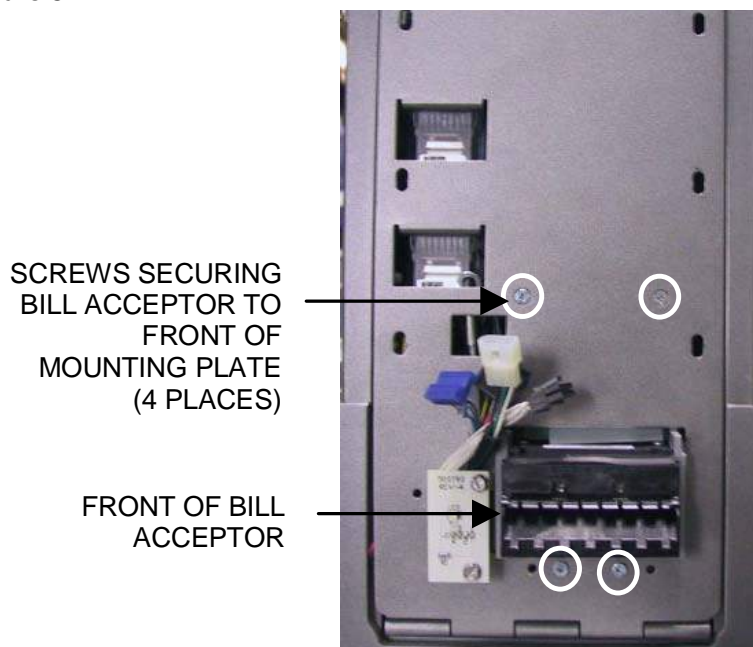

FIGURE 5 - FRONT VIEW OF EVO WITH CPU SECTION REMOVED
6. Remove the 4 screws on the reverse side of the mounting plate fastening the bill acceptor. (For small-nosed games, two screws will be found in the area of the absent bill acceptor nose.) See Figure 5.
3. Insert the bill acceptor onto the mounting plate, then fasten the bill acceptor on the reverse side of the plate with the 4 existing screws. See Figure 5.